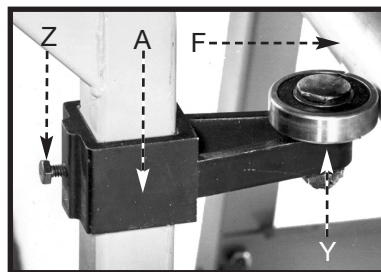

Fig. 34
9. Make sure lower bearing (Y) Fig. 34, contacts lower rail (F) in the center of the rail. If necessary, loosen screw (Z) and move bracket (A) up or down until bearing (Y) contacts rail (F).
NOTE: For Old Contractor's Saws, turn bracket (A) Fig. 34 upside down so that the bearing (Y) contacts the rail (F).